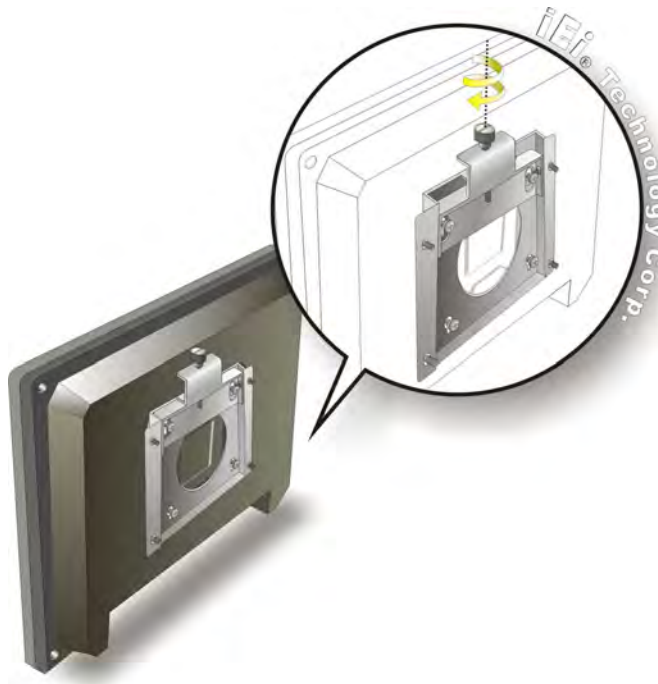

Figure 4-12: Secure the IOVU-570M
Step 9: Secure the panel PC by fastening the retention screw of the wall-mounting bracket. (Figure 4-12).